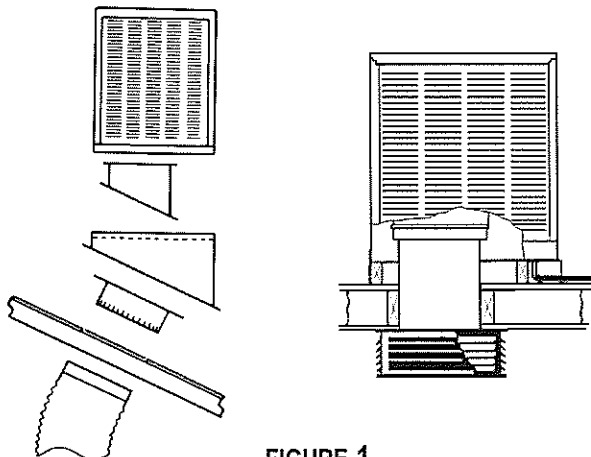

FIGURE 1
Your cooler may be a down discharge (BD) or a horizontal discharge (BH) model. Horizontal discharge coolers are designed for installation on the side of a building, on a flat or pitched roof (using a 90-degree transition duct), or mounted at ground level on a slab, while down discharge coolers are designed for installation on either flat or pitched roofs (see Figures 1 & 2). Evaporative air-cooling systems (down or side discharge) can be connected to a duct distribution system with outlet registers for each area to be cooled.